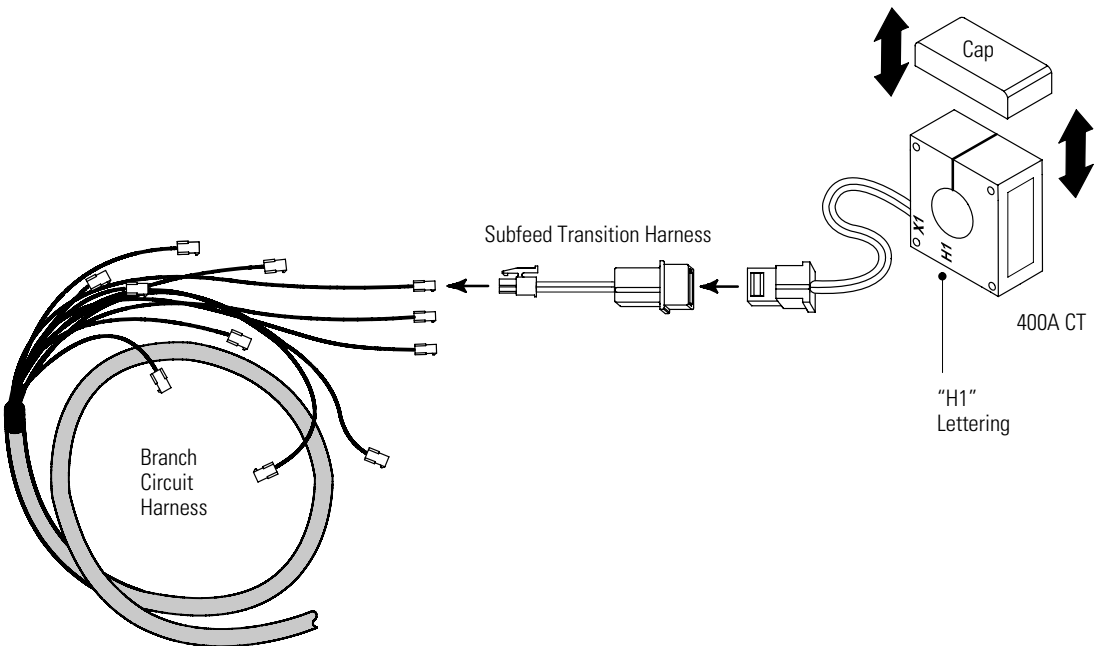

Figure 10. Subfeed Monitoring Connections
- 9. Subfeed Accessory only.** Locate the Subfeed Accessory Kit (three subfeed transition harnesses and three 400A CTs). Connect a subfeed transition harness to each CT. See Figure 10.